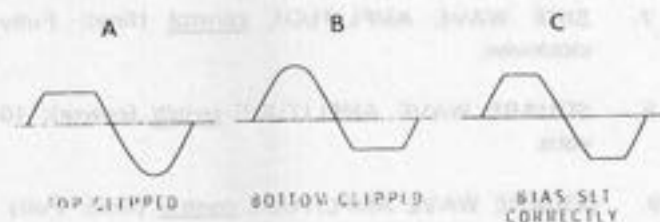

Figure 11 Bias adjustment waveforms.
14. Rotate the FEEDBACK control fully clockwise. Note that the positive or negative half of the waveform is clipped as shown in part A or B of Figure 11.
15. Adjust the BIAS control so both halves of the waveform are clipped equally, as shown in part C of Figure 11.